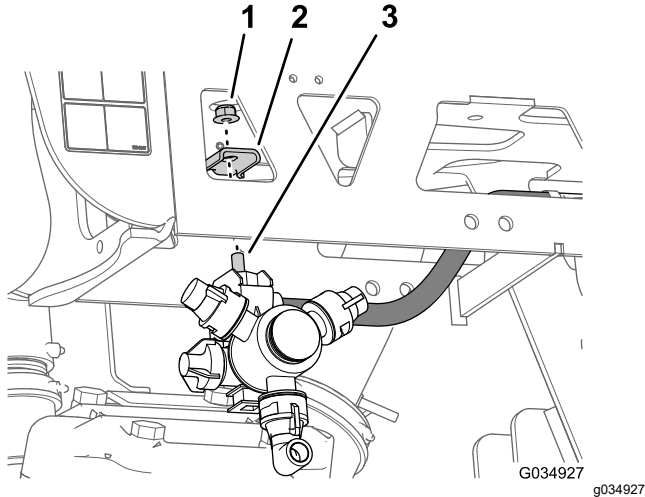

Figure 82
6. Repeat steps 2 through 7 for the other hose and nozzle assembly at the other outer truss (Figure 79 and Figure 82).
- Align the hex-head bolt (5/16 x 3/4 inch) of the sprayer nozzle through the hole in the nozzle mount (Figure 82) and loosely secure the nozzle to the mount with a flange locknut (5/16 inch) that you removed in steps 1 or 4 of 12 Removing the Sprayer-Nozzle Hoses for the 3-Section System (page 32).